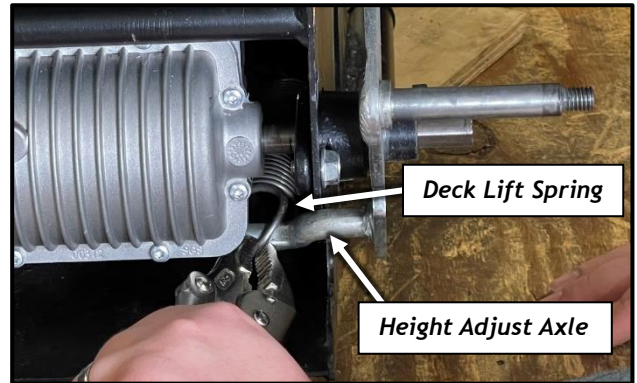

Figure 3
2. Using a Spring Puller or Locking Pliers, take the end of the Deck Lift Spring off the Height Adjust Axle (Figure 3).